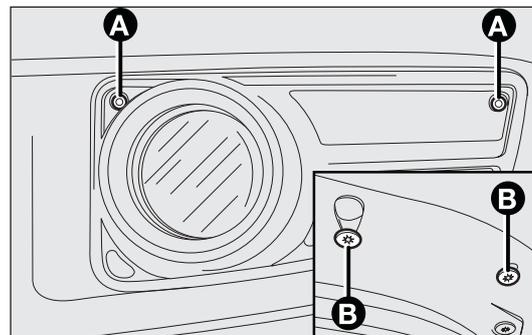

fig. 149
- undo the two screws A and B-fig. 149 for fog light fastening on the bumper and take out trim and fog light, disconnecting the connector;